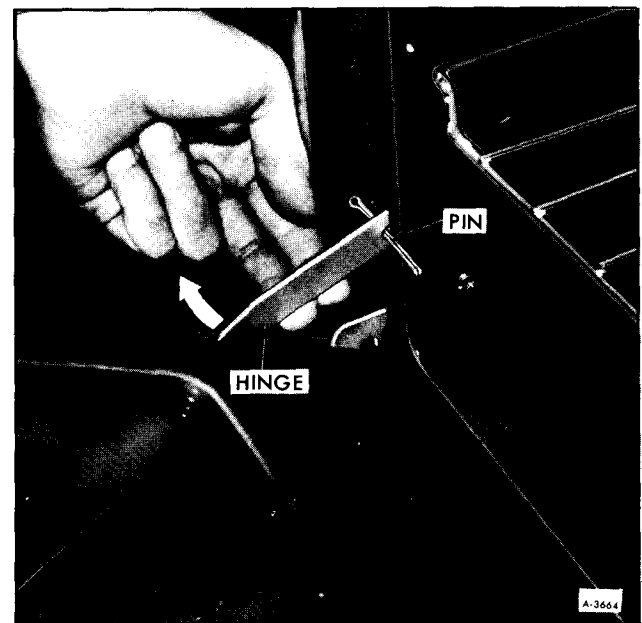

Figure 7—Disengaging Door Hinge
2. Lift door (as if to close) and disengage hinges at door (See figure 7).